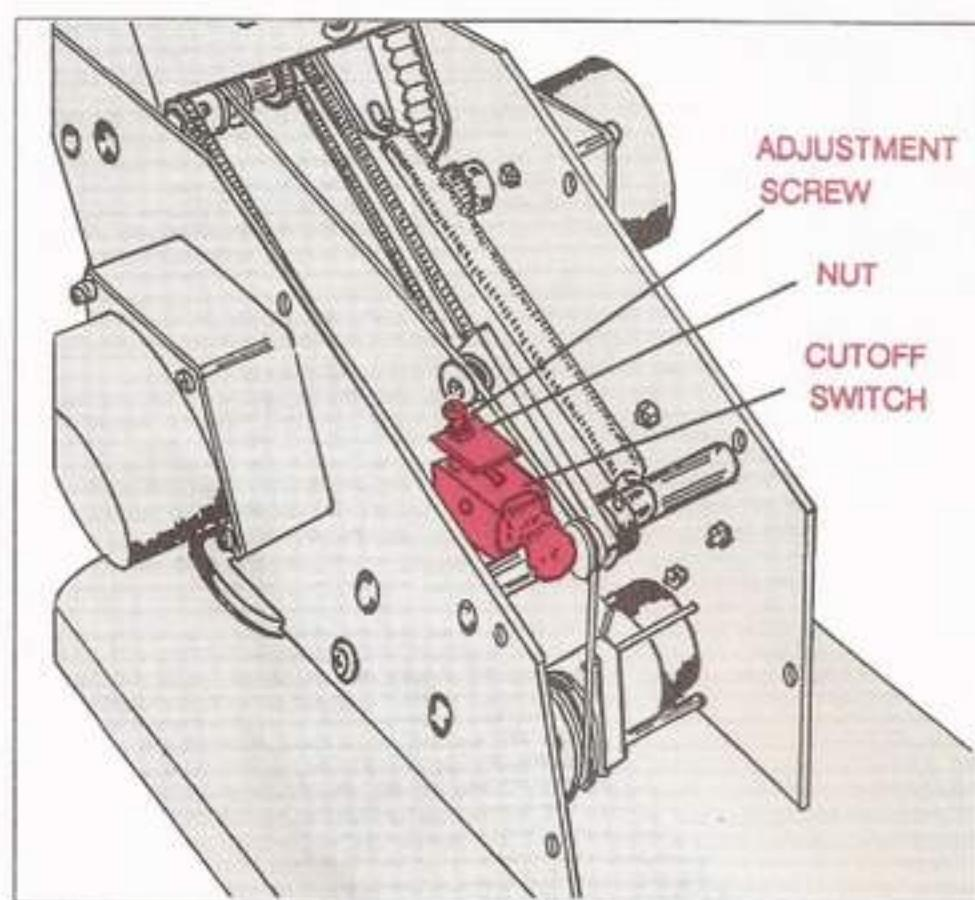

Fig. 97: The Gripper Cutoff-Switch Adjustment
- _____ j. If the gripper motor continues to run after the gripper has closed, manually click the cutoff switch. Loosen the nut at the base of the cutoff-switch adjustment screw, as depicted in Fig. 97. *Note: You may have to break the lock-seal to do it.*
- _____ p. Loosen the nut at the base of the cutoff-switch adjustment screw, as shown in Fig. 97. *Note: You may have to break the lock-seal to do it.*